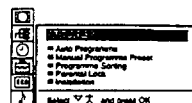

Fig. 3
- 1 Select the symbol  for "Preset" with  $\Delta$  or  $\nabla$  and press OK. The PRESET menu appears. (See Fig. 3.)